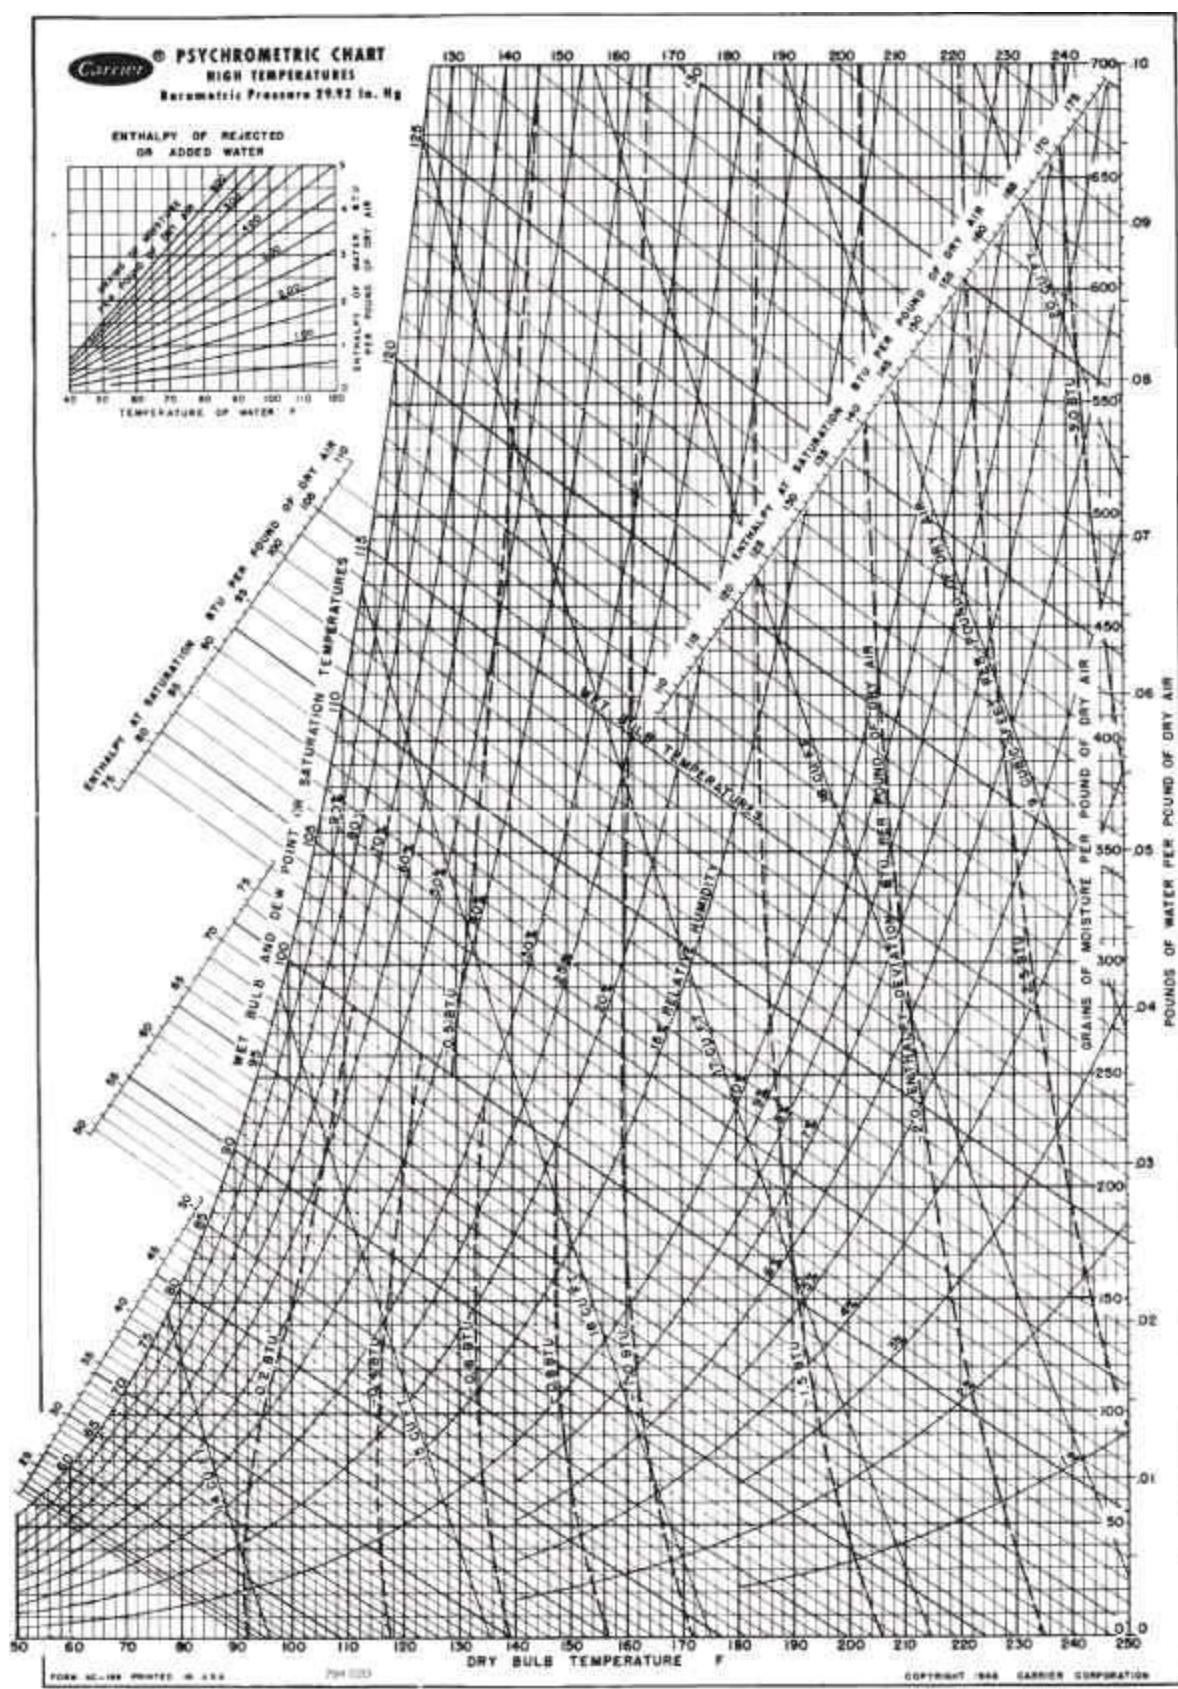

Figure 11.7a. Psychrometric chart in American Engineering units (Reprinted by permission of Carrier Corporation)
Figures 11.7a and 11.7b are reproductions of the Carrier psychrometric charts.
- Humidity (H).** You can read the humidity from the right-hand ordinate as 0.0112 lb H_2O /lb of dry air.
- Enthalpy.** The enthalpy value for saturated air with a wet-bulb temperature of 70°F is $\Delta\hat{H}$ of dry air (a more accurate value can be obtained from psychrometric tables if needed). The enthalpy deviation shown by the dashed curves in Figure 11.7a (not shown in Figure E11.1) for less than saturated air is about -0.2 Btu/lb of dry air; consequently, the actual enthalpy of air at 37% RH is $34.0 - 0.2 = 33.8$ Btu/lb of dry air.